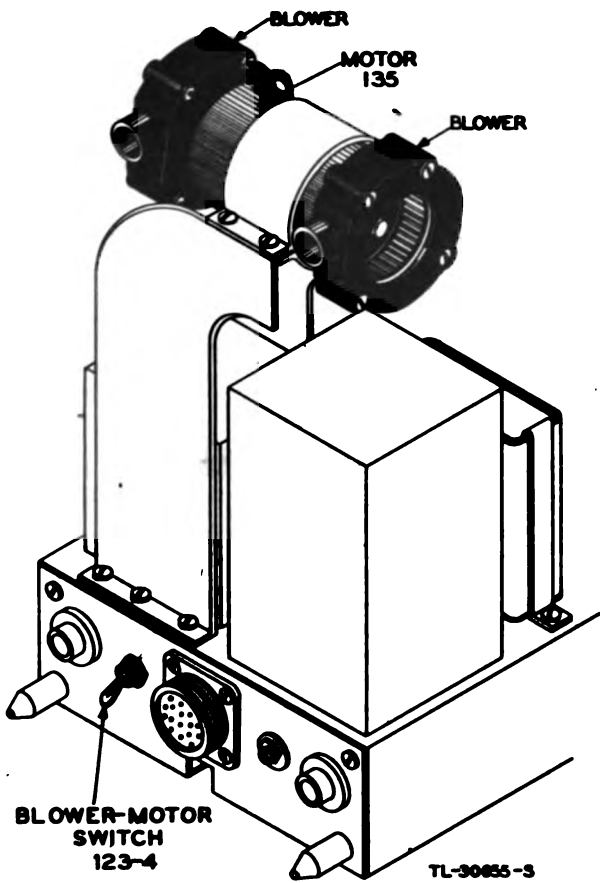

Figure 127. Control Unit BC-1378, rear view.
vided in the upper part of the rear panel of the control unit. Toggle switch 123-4 (fig. 122) for the control unit blower motor has been mounted between the multiple cable receptacle and the TRIGGER IN connector (fig. 127).
- c. Remove the blower motor from its mounting clamp by removing the two screws at each end of the mounting clamp (fig. 127).